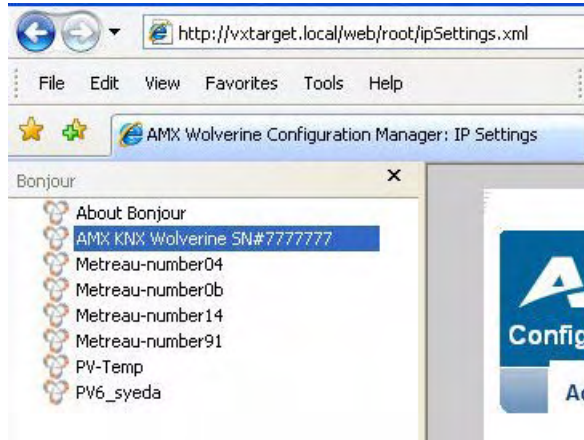

FIG. 2 Bonjour for Windows - example screen
4. The unit's IP Address is displayed in the IP Settings page (FIG. 2).
As shown in FIG. 2, Bonjour for Windows operates as a plug-in to Internet Explorer (version 7 shown), and is displayed in the IE Explorer Bar. If you have installed Bonjour for Windows, but don't see the Bonjour toolbar icon, you may need to "unlock" and expand the toolbars to see it.